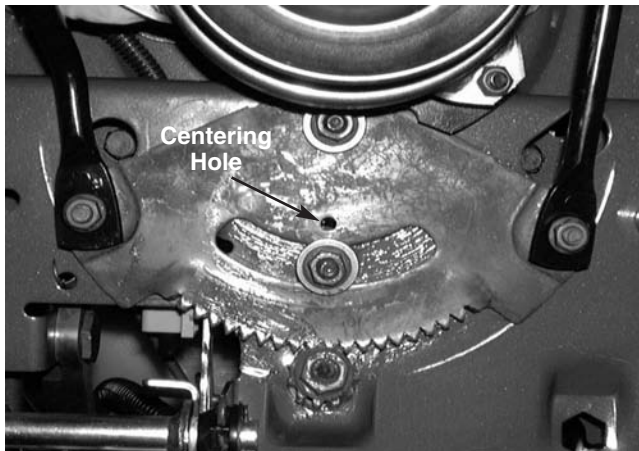

FIGURE 1.
- 5). Line up the centering hole in the steering gear with the centering hole in the support plate, and insert a 1/4" Phillips screw driver up through both. See figure 1.